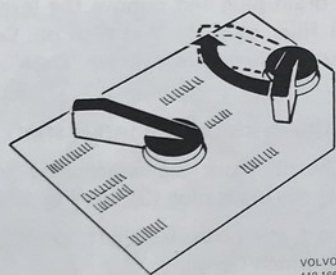
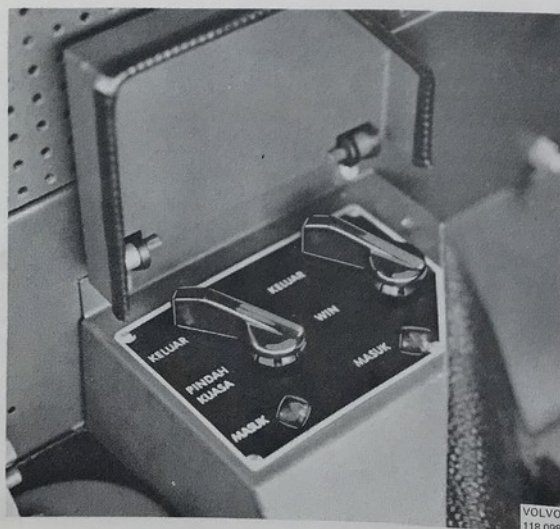

Fig. 92-35. Disengaging the winch
Fig. 92-36. Control panel
2. Disengage the winch by turning back the right-hand switch, see Fig. 92-35 behind the passenger seat, see Fig. 92-36.